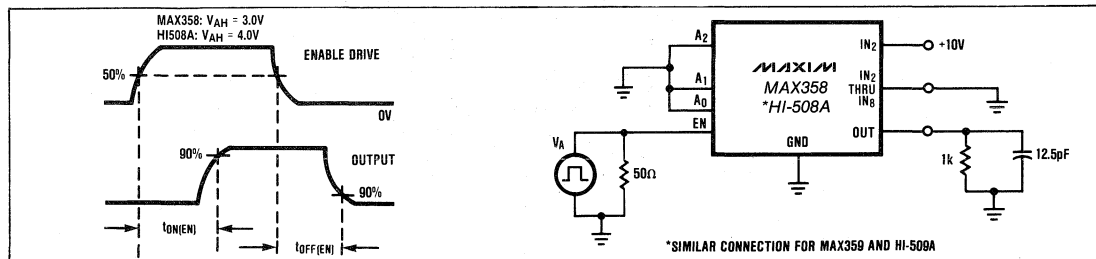

Figure 3. Enable Delay ($t_{ON(EN)}$, $t_{OFF(EN)}$)
| Enable Delay (ON) | t _{ON(EN)} | (Figure 3) | +25°C Full | 300 | 500 | | 300 | 1000 | | ns |
| Enable Delay (OFF) | t _{OFF(EN)} | (Figure 3) | +25°C Full | 300 | 500 | | 300 | 1000 | | ns |